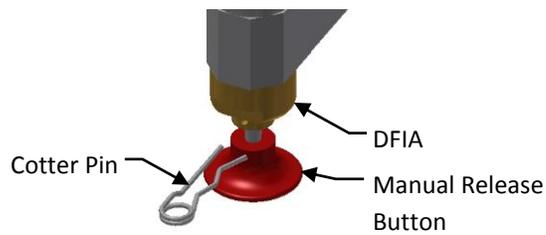

Figure 4 Manual Release Button Reset
3. Remove the Cotter Pin from the DFIA. See Figure 4.